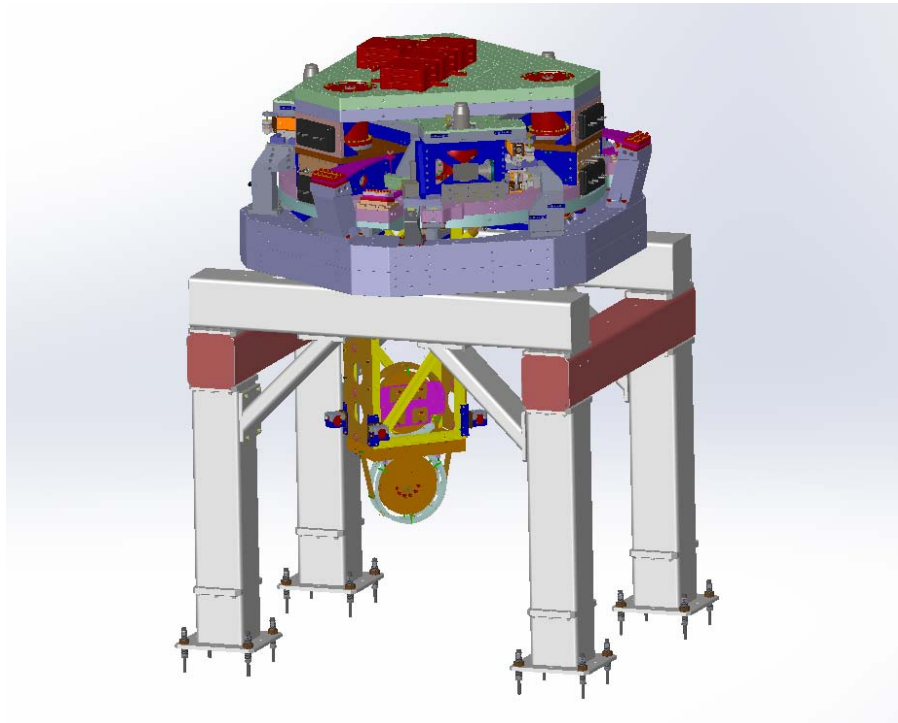

Figure 2: The LBSC2 cartridge assembly on the BSC Mechanical Test Stand (D1002124)
The LBSC2 cartridge assembly is depicted in Figure 2. The major optics assembly integrated into the LBSC2 cartridge is the Beam Splitter (BS) suspension assembly (D0900431). The two elliptical baffles are not part of the cartridge assembly as they interfere with the test stand.